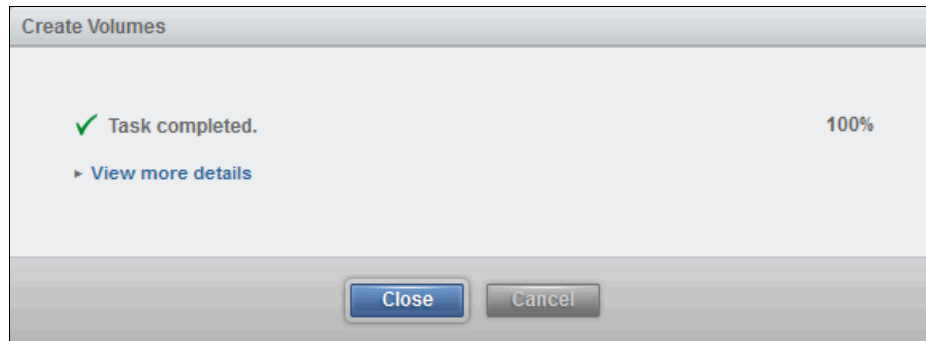

Figure 5-6 Completion of the Create Volumes wizard
7. If you clicked **Create**, the wizard completes, as shown in Figure 5-6.